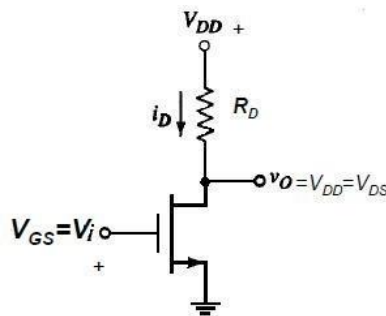

Fig.1: NMOS Inverter with Ohmic/Resistive Load
1. Set up the circuit for NMOS inverter as shown in Fig.1.